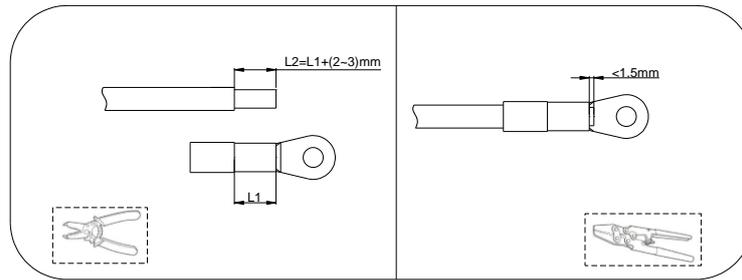

FIG 4-5 Making PE cable
Step 2: Fix the grounding cable on the inverter with the M4X10 screw in the attachment. Tool: PH2 screwdriver. Torque: 1.8N.m Shown as FIG 4-5.